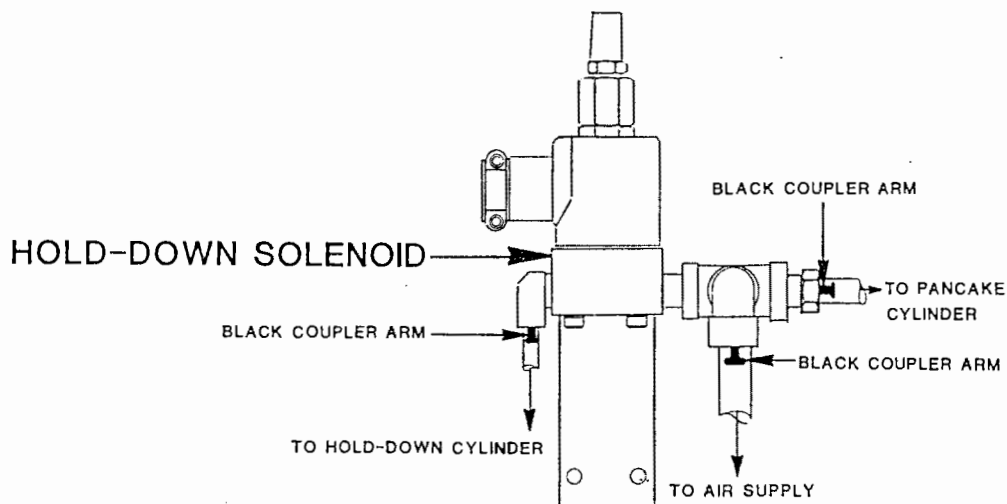

Figure 8.7 D
12. Unhook brake guard (117) from press. Brake guard has two hooks that hook onto top of press.
13. Remove air tubes from hold-down solenoid by pinching black coupler arms of each tube and then pulling each tube out of solenoid. See Figure 8.7 D.